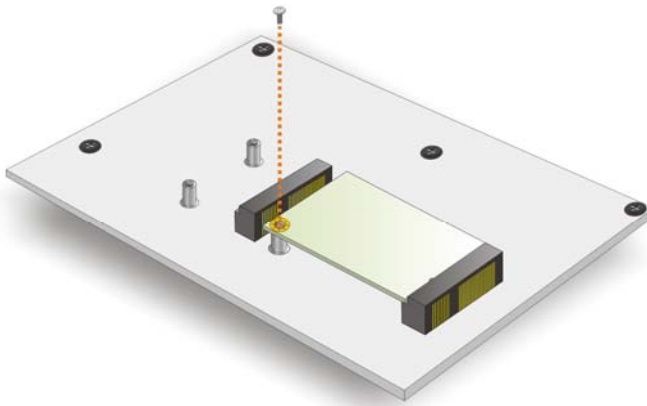

Figure 3-9: Secure the Full-size PCIe Mini Card
Step 5: Secure the full-size PCIe Mini card with the retention screw previously removed (**Figure 3-9**).